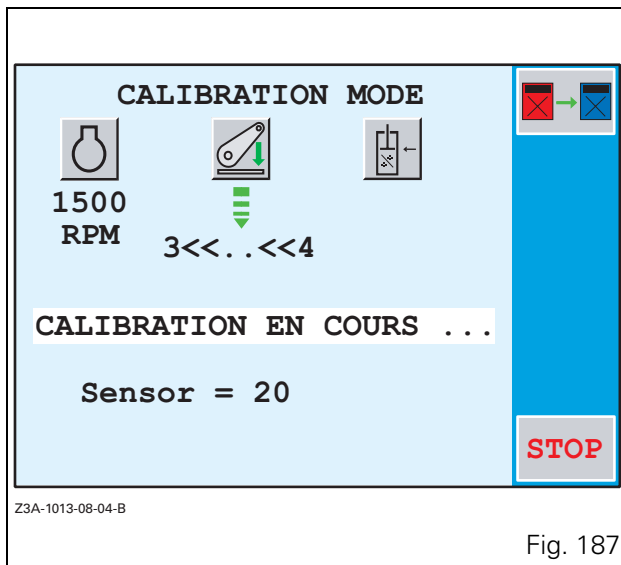

Fig. 187
- Press the key \ll_6 . Calibration starts and a new window is displayed (Fig. 187).